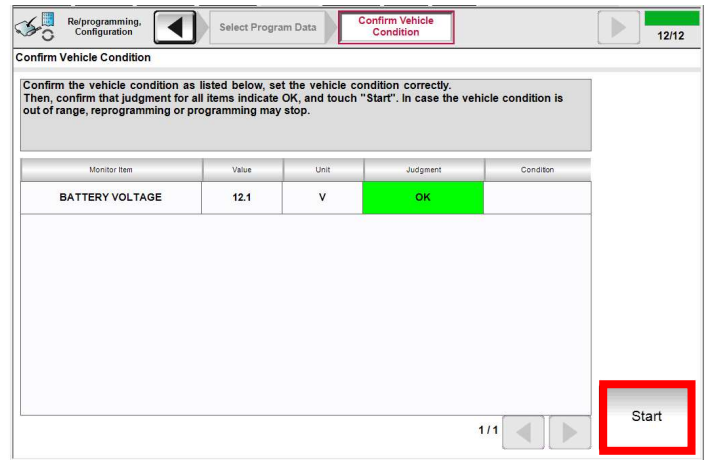

Figure 28
31. Confirm battery voltage is within the acceptable limits and select **Start**. (Figure 28)